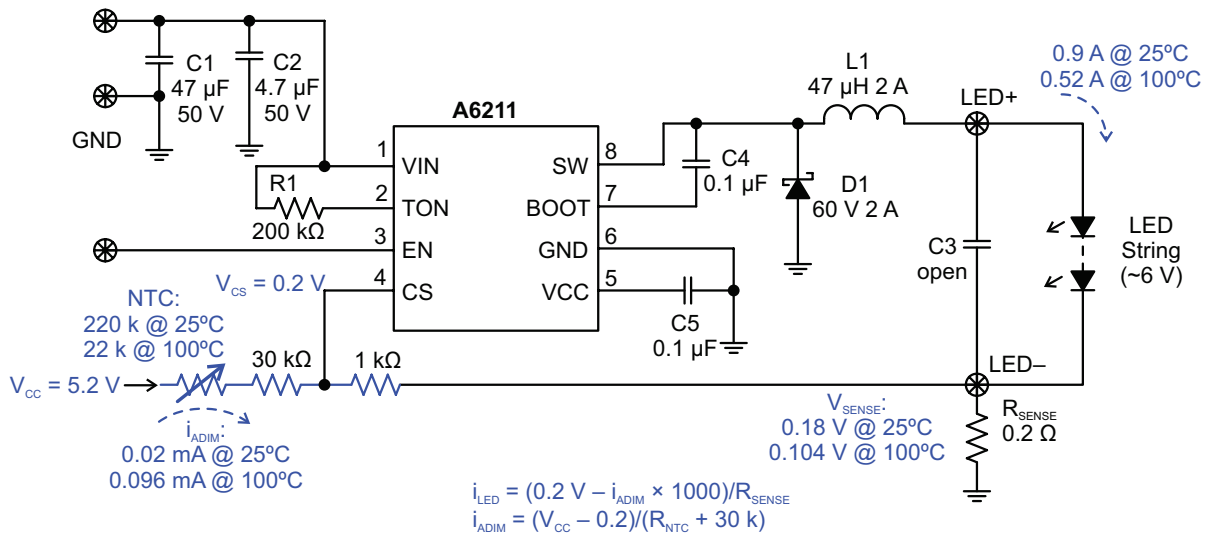

Figure 18: Thermal Foldback of LED Current using NTC Resistor
- Figure 18 shows thermal de-rating of LED current by an NTC resistor.